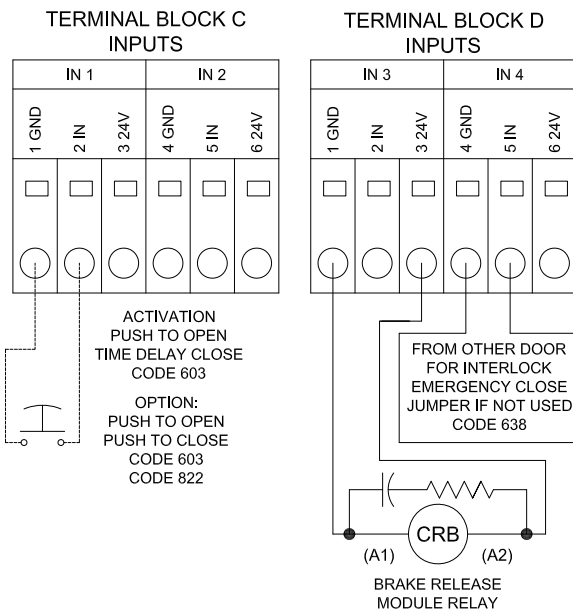

Figure 31:Electrical Input Connections
3. Connect wiring from wall mount push plates as shown in Figure 31.